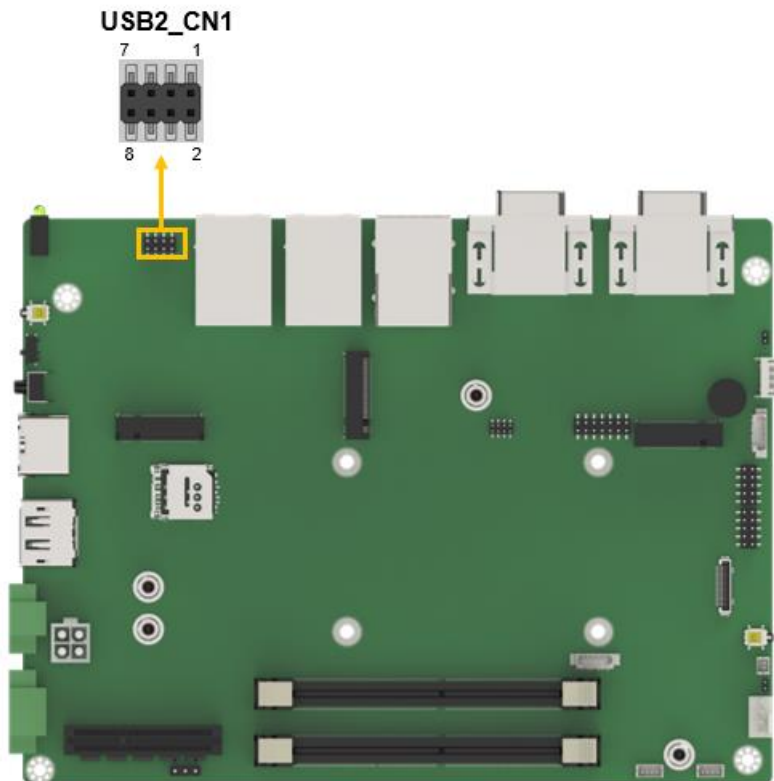

Figure 4-5: Internal USB 2.0 Connectors Locations
- CN Location:** See **Figure 4-5**